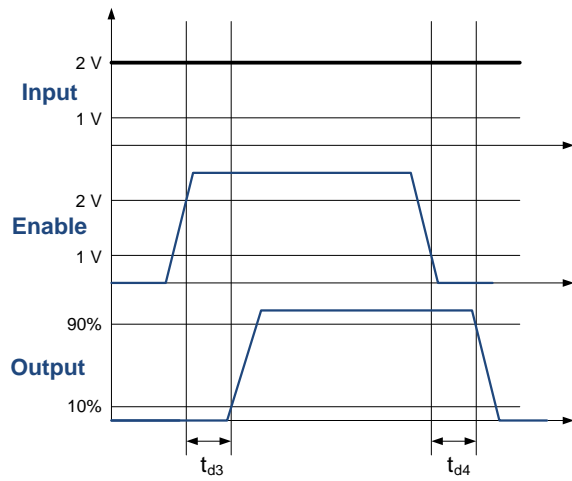
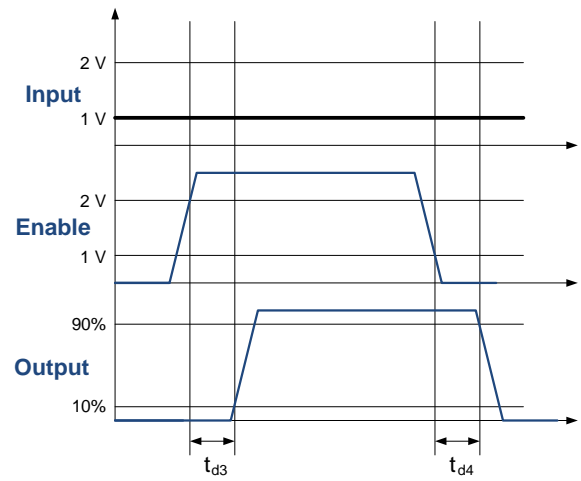
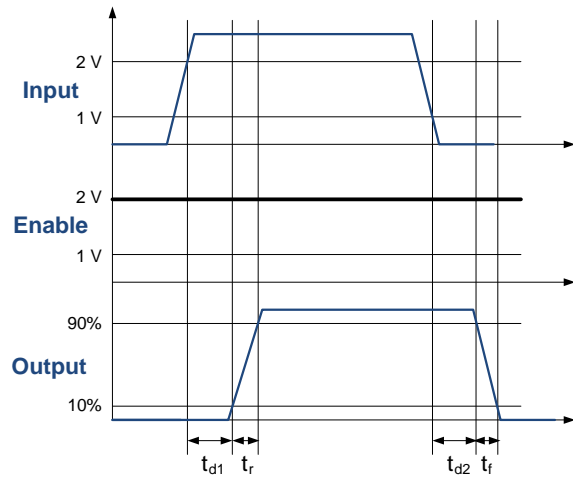
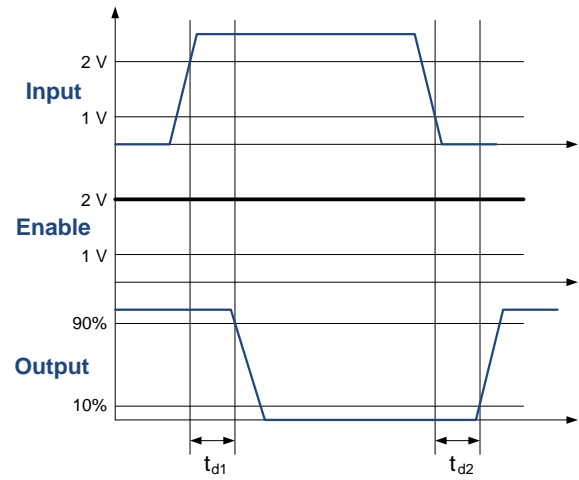

Figure 2. Enable Function for Non-inverting Input Driver Operation
Figure 3. Enable Function for Inverting Input Driver Operation
Figure 4. Non-inverting Input Driver Operation
Figure 5. Inverting Input Driver Operation
4. See timing diagrams in Figure 2, Figure 3, Figure 4 and Figure 5.